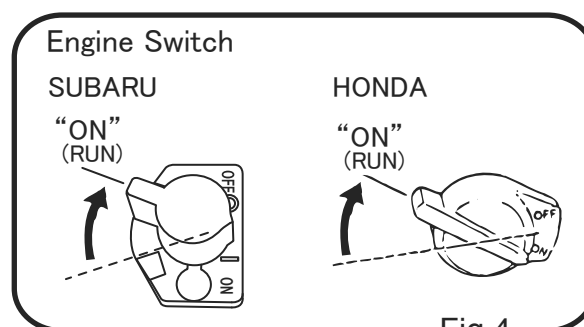

Fig.4
- 8-1-2 Turn the stop switch to "ON (I)" position. (Fig.4)